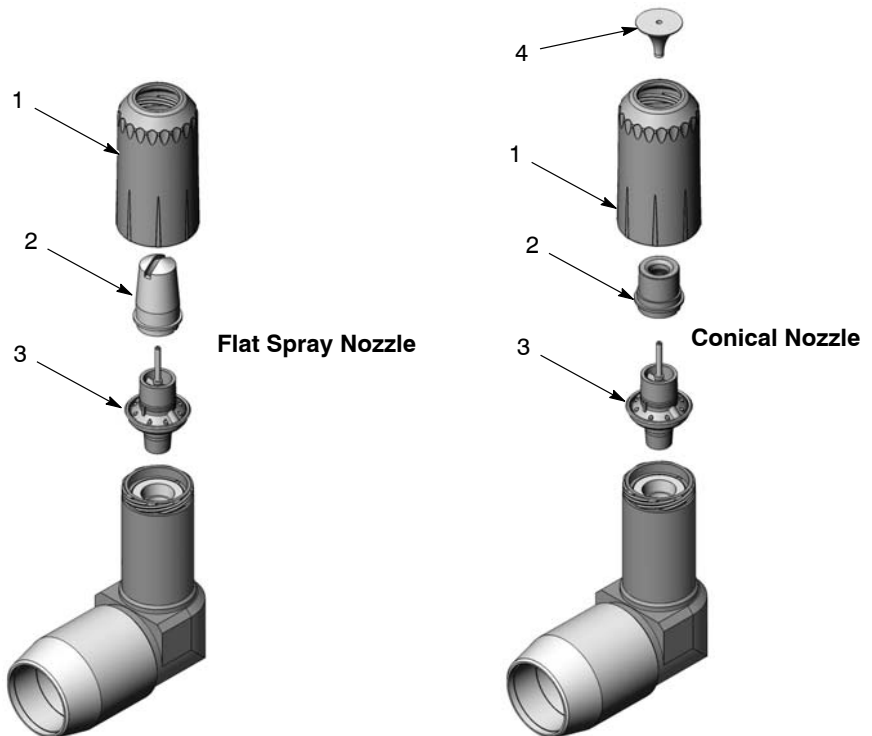

Figure 5 Installing Electrode Holder and Nozzle on the Extension
- See Figure 5. Install the electrode holder, nozzle, and nozzle nut onto the extension. If using a flat spray nozzle, orient the nozzle as desired before tightening the nozzle nut hand-tight. If using a conical nozzle, install the deflector over the electrode holder after tightening the nozzle nut.
2. See Figure 5. Remove the nozzle and electrode holder from the extension.